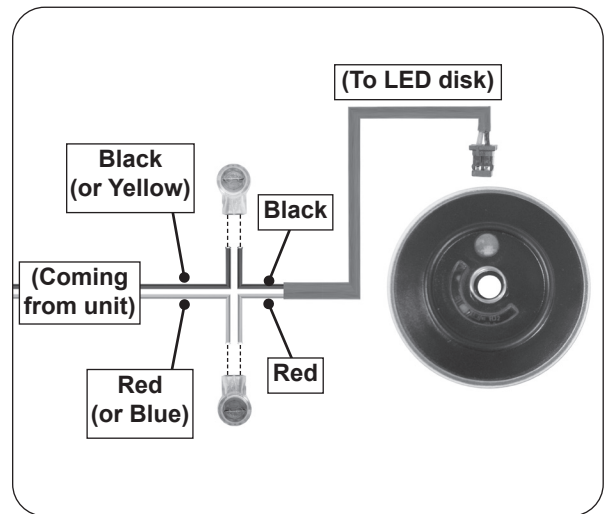

Fig. 2-1 Wiring diagram
a. Insert the **black wire from this kit** and the cut **black wire from the unit** into the inlets of a buttsplice connector. (If your unit has yellow and blue wires, **use the yellow wire for this connection.**) See Fig. 2-1.
c. **Repeat for the red wires.** (If your unit has Yellow and blue wires, **use the blue wire for this connection.**) See Fig. 2-1.